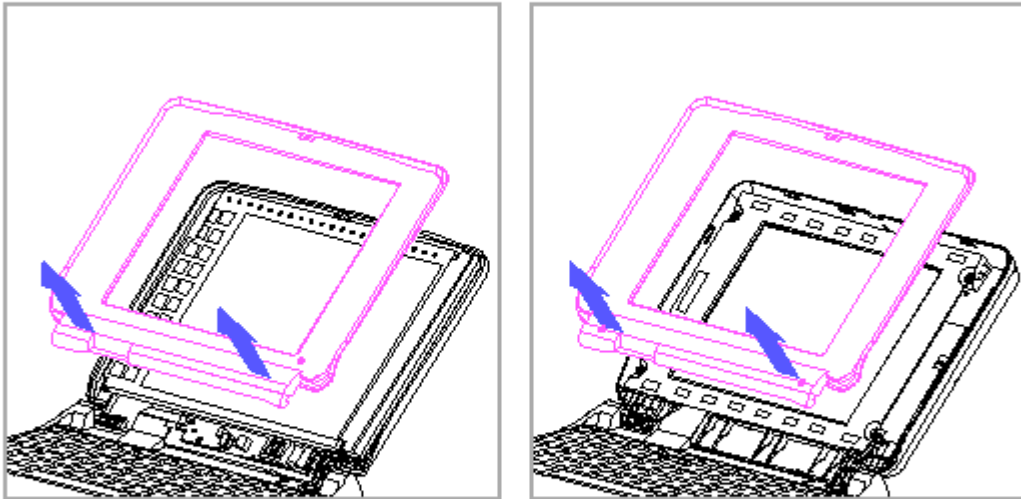

Figure 3-6. Removing the Display Bezel
8. Remove the bezel from the display assembly by gently pulling the bezel frame and working from the bottom up (Figure 3-6).